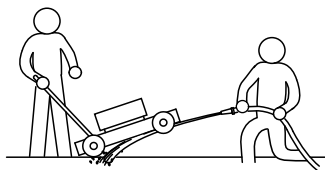

Figure 16
5. Holding the handle, tilt the machine up so the bottom of the deck is accessible (Figure 16).
6. Spray a stream of water under the deck (Figure 16).